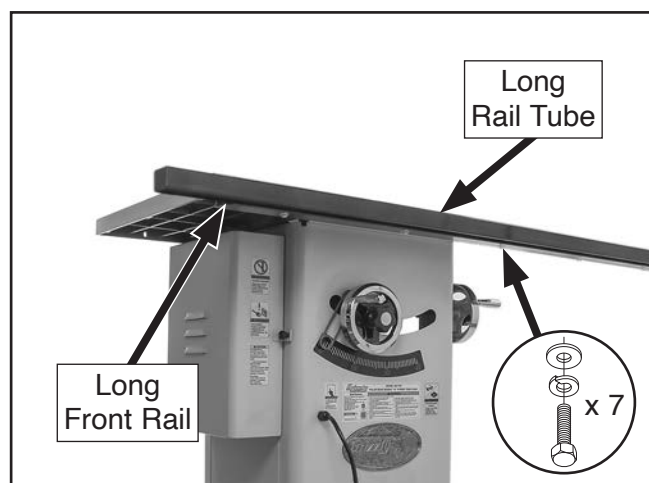

Figure 7. Long rail tube attached to long front rail.
10. Attach long rail tube to long front rail with (2) 1/4"-20 x 5/8" hex bolts, 1/4" lock washers, and 1/4" flat washers, as well as (5) hex bolts, lock washers, and flat washers removed in **Step 6** (see **Figure 7**). Hand-tighten fasteners for now.